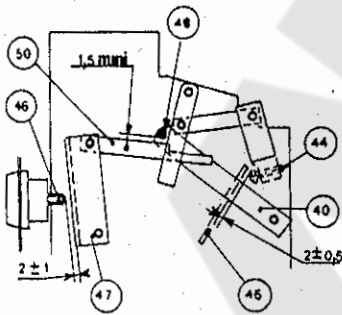

Fig. 22
A. **Adjustment (Fig. 22).** Place breaker in tripped position with closing springs fully charged. Adjust screw (44) to obtain 4 ± 0.5 mm (0.158 ± 0.020 inch) clearance between lever (45) and end of screw (44). Adjust screw (46) on trip button for 4 ± 0.5 mm (0.158 ± 0.020 inch) clearance between strip (47) and screw end (46).